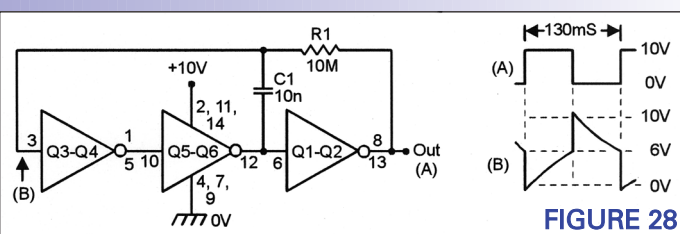

FIGURE 28
One of the most useful applications of the 4007UB is as a ring-of-three astable multivibrator; Figure 28 shows the basic configuration of the circuit. Waveform timing is controlled by the values of $R1$ and $C1$, and the output waveform (A) is approximately symmetrical. Note that for most of the
■ FIGURE 28: THIS 4007UB RING-OF-THREE ASTABLE CONSUMES 280μA AT 6V, 1.6 MA AT 10V.
In practice, the running current of the Figure 28 astable circuit is higher than that of an identically configured B-series 'buffered' CMOS IC such as the 4001B, the comparative figures being 280μA at 6V or 1.6 mA at 10V for the 4007UB, against 12μA at 6V or 75μA at 10V for the 4001B. The 4007UB circuit, however, has far lower propagation delays than the 4001B and typically has a maximum astable operating speed that is three times higher than that of the 4001B.